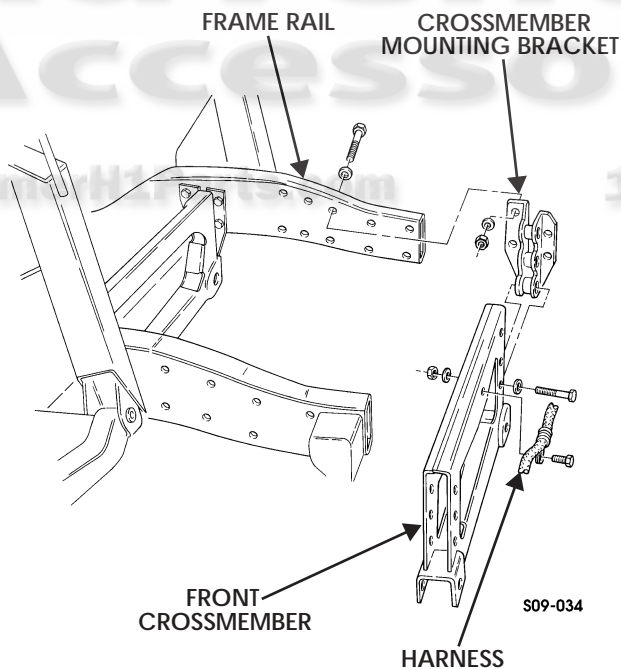

Figure 9-46: Front Crossmember
7. Remove capscrew and clamp securing harness to front crossmember (Figure 9-46).
1. Position left and right crossmember mounting brackets on crossmember (Figure 9-46).